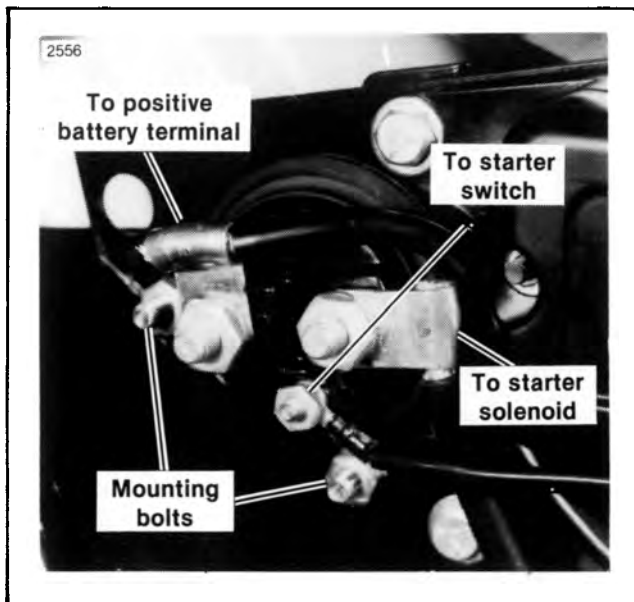
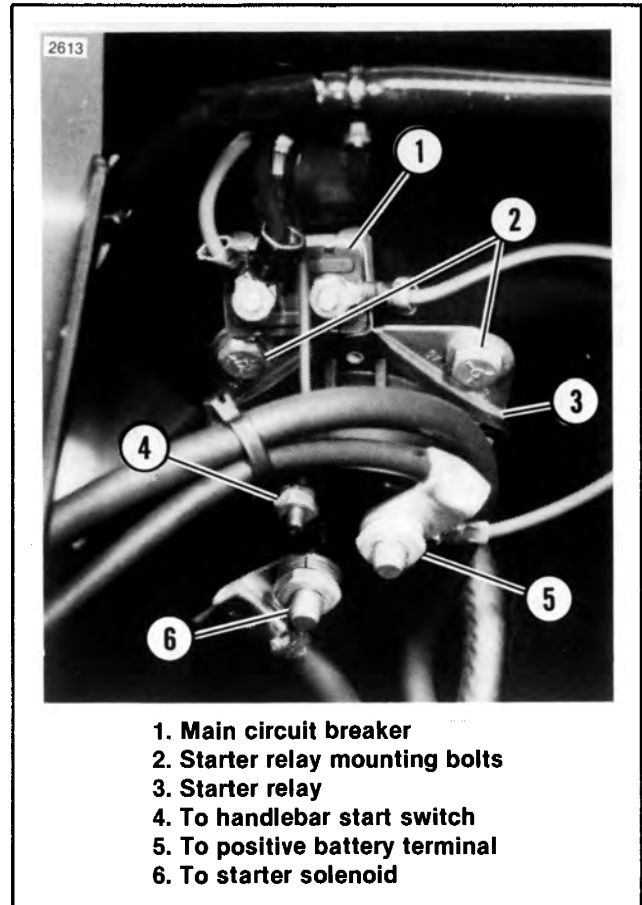

Figure 5-18. Starter Relay Mounting and Connections Early 1985 — FXR (Right Side Cover Removed)
Figure 5-19. Starter Relay Mounting and Connections Early 1985 — FLT (Seat Removed)
2. See Figures 5-18, 5-19. Disconnect wires and remove the starter relay.
1. If the starter relay failed the above tests, install a new relay and connect the wires as shown in either Figure 5-18 (FXR) or Figure 5-19 (FLT).